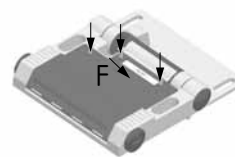

Fig. 4
6. Uniformly tighten the 3 cover screws (Fig. 4) with 0.6 Nm tightening torque.